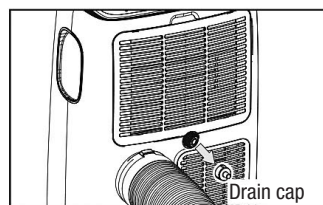

Fig. 27
Manual Draining (Fig.27)
2. Remove the drain cap (Fig.27). While doing this operation some residual water may spill so please have a pan to collect the water.